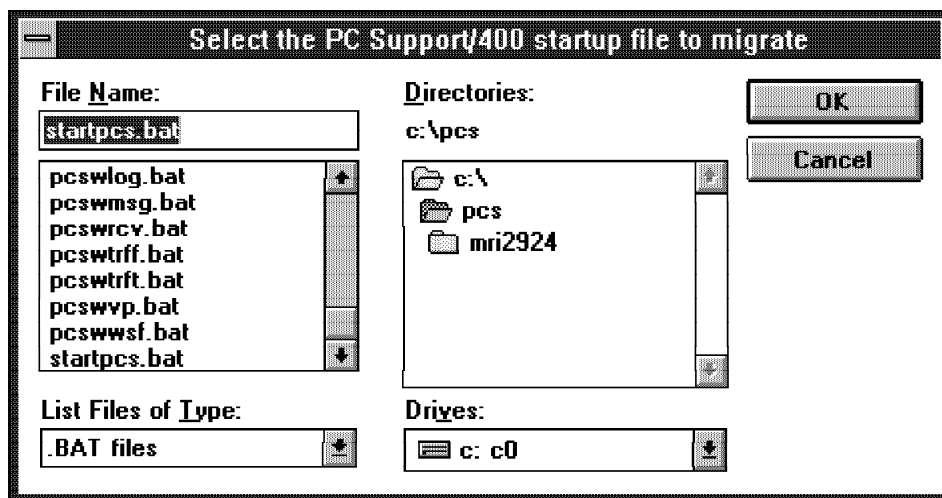

Figure 77. Migration Tool - Startup File to Migrate Prompt
7. You are then prompted to select which PC Support/400 startup file to migrate (see Figure 77 on page 245). The installation program checks your PC Support/400 path to find any *.BAT files. It automatically inserts the STARTPCS.BAT file name if it is found in your PC Support/400 directory. If this is not the name of the file you use to connect to the AS/400 system,